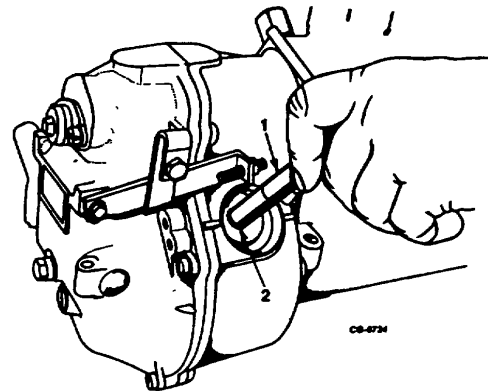

Figure 10. Making Preliminary Governor Cut-Off Adjustment
c. Adjust cut-off by increasing or decreasing pretension of governor weight spring Use SE-2348 governor spring adjusting wrench on cylindrical nut to make this adjustment (Figure 10).